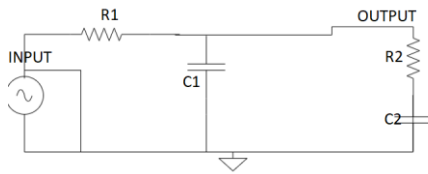

Figure 10 Band Stop Filter circuit
- Connections are made as shown in Fig.10